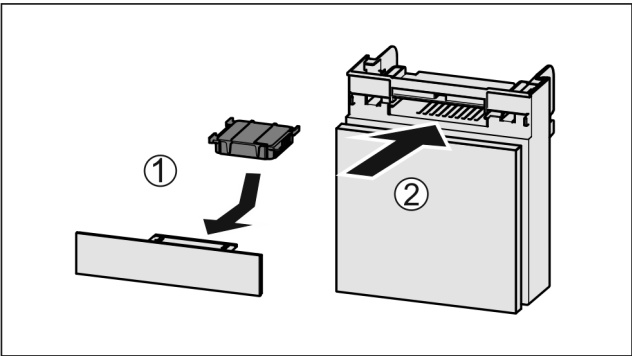

Fig. 82
- Insert the carbon filter as shown in the diagram Fig. 82 (1).
- Push the compartment in Fig. 82 (2).